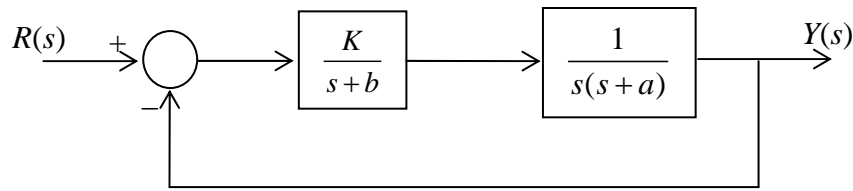

Figure 3
3. Consider Figure 3 of a unity-feedback control system. Derive the sensitivities of the closed-loop transfer function with respect to parameters K , a and b .